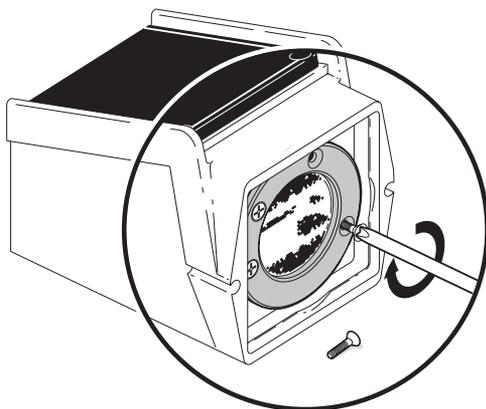

Figure 8-6. Replace and Tighten Mounting Screws
6. Place the black retaining ring over the transducer assembly with the beveled edges out and the flat surface against the Sonic Tracker II base. Line up the holes for the mounting screws. The mounting screw holes are set to an irregular pattern, ensuring the retaining ring only lines up with the mounting holes one way (Figure 8-6 on page 8-8).
7. Start the mounting screws into the holes and tighten each until firm (Figure 8-6 on page 8-8). **DO NOT OVER TIGHTEN.** Use a cross (X) pattern when tightening the screws.